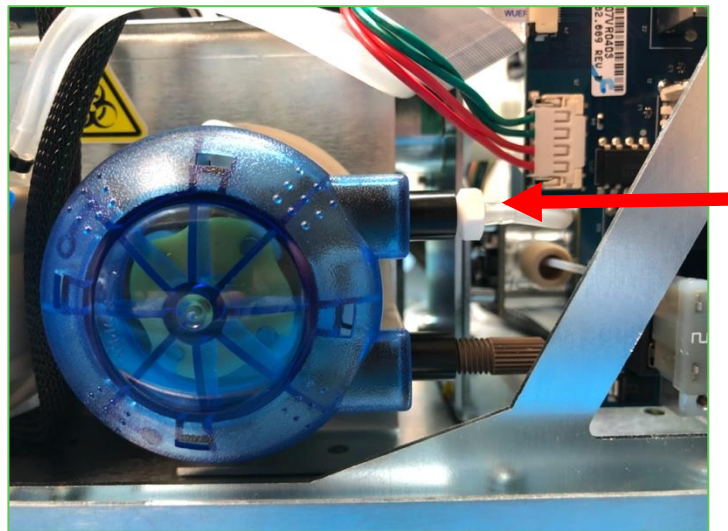

Figure 3
7. Unscrew the connector attached to the bottom port of the Primary Pump. (Figure 3)
14. Reconnect the tubing to the white connector on the left and re-attach the brown thumbscrew to the right of the peristaltic pump. (See Figure 3)